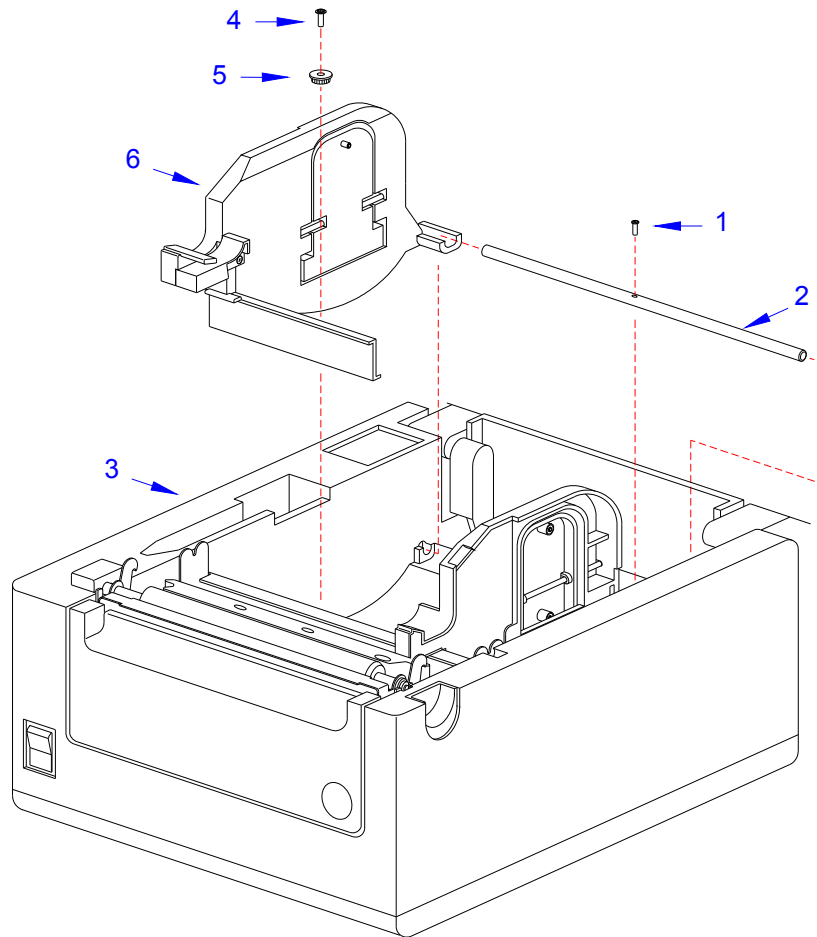

Figure 4-7a, Label Sensor Board Replacement
- 3 Remove one screw (1) (See Figure 4-7a) that secures the bar (2) to the printer (3).
- 4 Remove one screw (4) and gear (5) from the printer (3).
- 5 Lift away the left-side media holder (6) from the printer (3).
- 10 Lift the main board (10) and disconnect the wiring harness of the relay board.
- 13 Re-attach the base cover (8) to the left-side media holder (6) using three screws (7).
- 14 Place the left-side media holder (6) (See Figure 4-7a) into the printer (3) along with the gear (5) and secure using a screw (4).
- 15 Secure the bar (2) to the printer (3) using a screw (1).